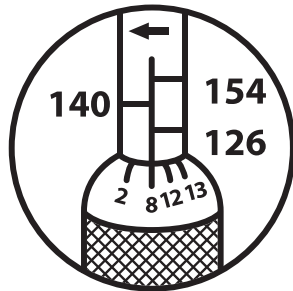

FIG1 112Nm
2. Turn knurled handle clockwise until 8Nm graduation on the bevel edge of the handle is in line. Lock handle securely by turning lock nut clockwise, and now wrench is set at 120 Nm which is ready to use. See Figure 1 and 2